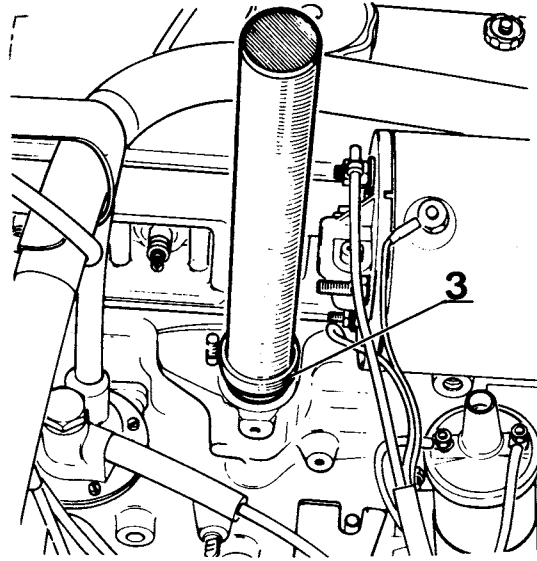

FIGURE 49. SLEEVE DRIVER
Using a tube, drive in the sleeve until the shoulder of the mandrel (3) touches the cylinder block (Figure 49).